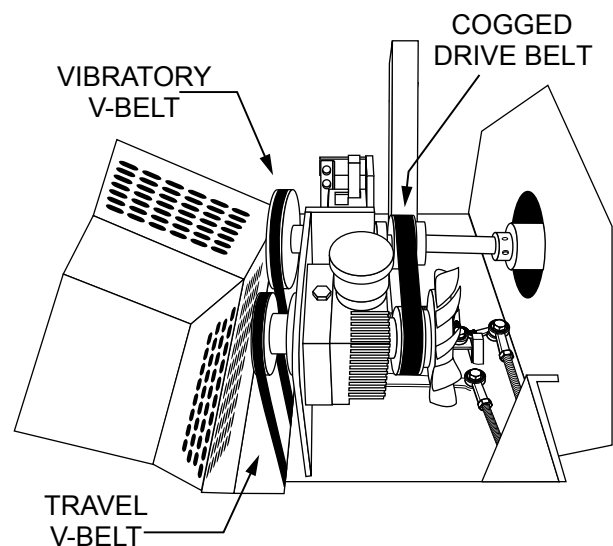

Figure 14. Checking V-Belts
1. Check the tension of the vibratory and travel V-belts (Figure 14). This tension can be checked by the amount of deflection when the belt is pressed midway between the two pulleys. The deflection of the travel belt should be approximately 3/4 of an inch (2 cm). The vibratory V-belt should have a deflection of approximately 2 to 2-3/4 inches (5 to 7 cm).